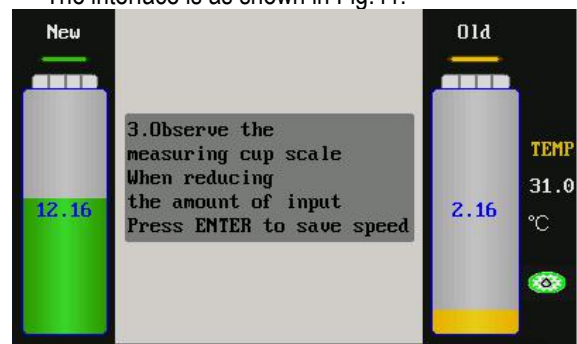

Fig.41
- 13) According to the prompts on the interface, OK the amount (such as 0.3L) of detergent to be added into the system, and then press OK key to start adding. The interface is as shown in Fig.41.